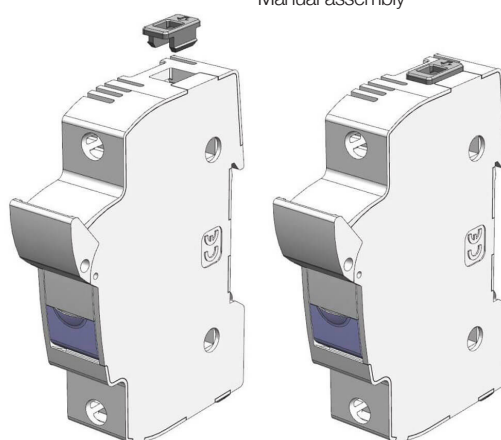

FIG. 4 | Special IP20 protection
* For wires of section ≤ 6mm² is necessary the use of the accessory to guarantee IP20 in clamps zone. ► **FIG. 4**